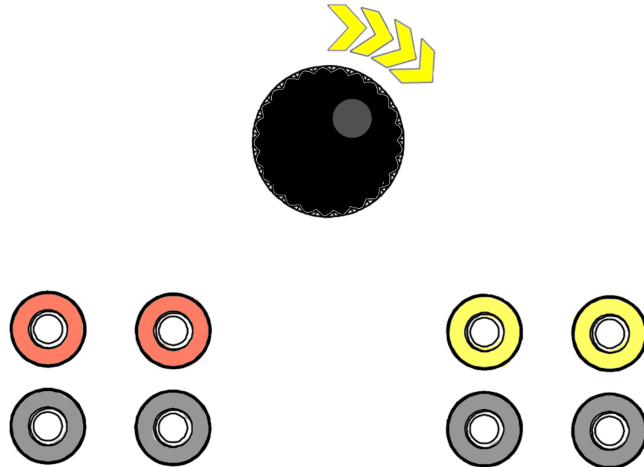
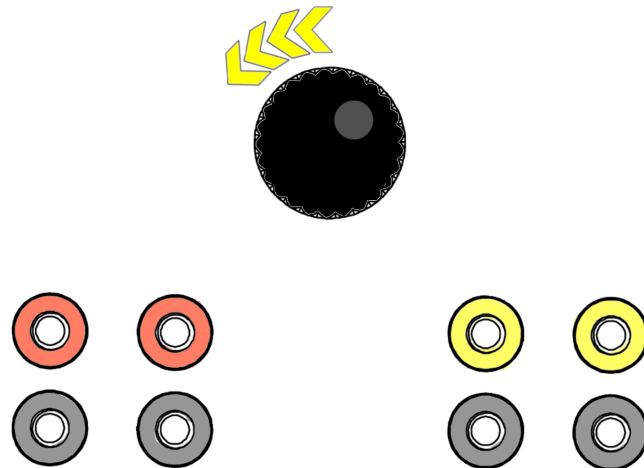

Figure 4: Increasing the digit
Figure 5: Decreasing the digit
2. Rotate the dial clockwise to increase the value of the digit (Figure 4) or counterclockwise to decrease the value of the digit (Figure 5).